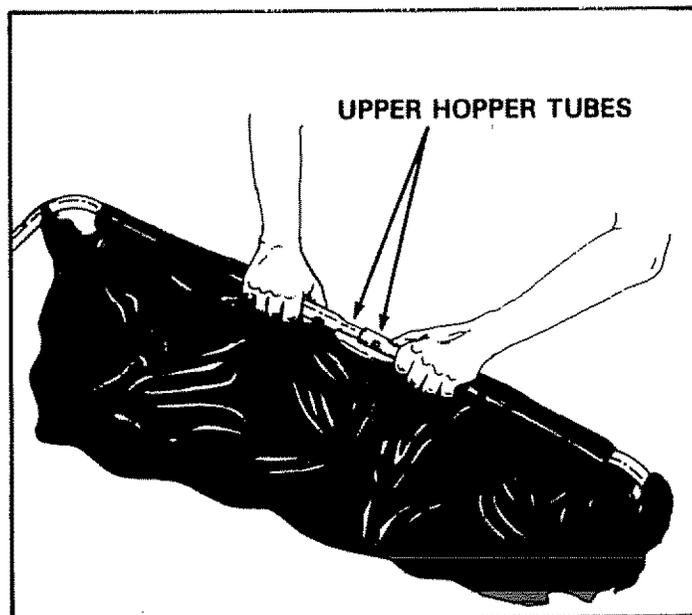

FIGURE 11
2. Slide the two upper hopper tubes together, as shown in figure 11. Line up the center holes.